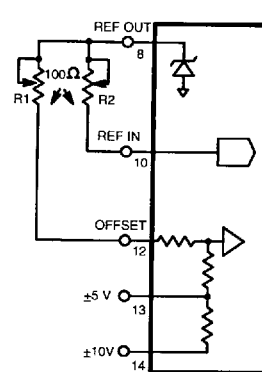

Figure 4.
1. To set  $\pm$  full scale: Connect MP574A as shown in *Figure 4.* Apply -4.9988 V to pin 13 (or -9.9976 V to pin 14) and adjust R1 for flicker between output codes 0000 0000 0000 and 0000 0000 0001. Then apply +4.9963 V to pin 13 (or +9.9927 V to pin 14) and adjust R2 for flicker between output codes 1111 1111 1110 and 1111 1111 1111.
2. To set Zero Transition and Gain: Connect MP574A as shown in *Figure 4.* Apply 0.0000V to pin 13 (for +5 V full scale applications) or pin 14 (for +10 V full scale systems) and adjust R1 until the output code flickers between 0111 1111 1111 and 1000 0000 0000. Then apply +4.9963 V to pin 13 (or +9.9927 V to pin 14) and adjust R2 for flicker between output codes 1111 1111 1111 and 1111 1111 1110.